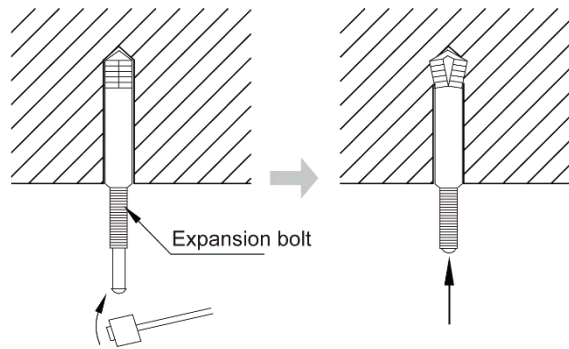

Fig 4.1.4
- 2) Insert the M10 expansion bolt into the hole and then knock the nail into the bolt, as shown in fig 4.1.4, and then remove the paper pattern.